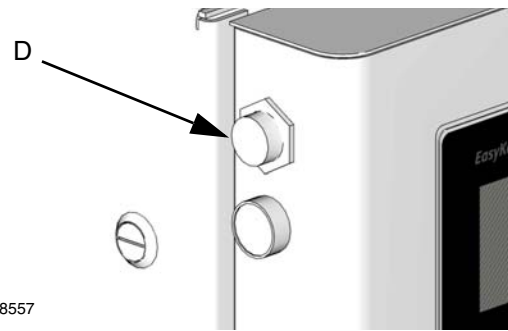

FIG. 40 RJ45 Bulkhead Connector Installation
6. Secure the Ethernet Assembly 249183 (C) to the EasyKey Display 249480 (B) using the hardware provided.
7. Remove plug (D) covering Ethernet opening at the upper right corner of the Control Panel. See FIG. 40.
9. Connect one end of the Ethernet cable to Ethernet Assembly 249183 (C).